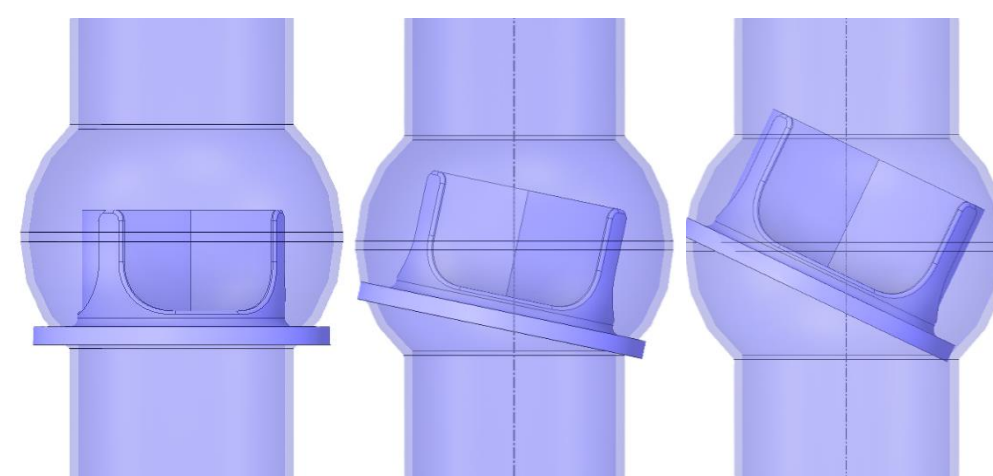

Fig. 2: 3D models of the heart valves in the aorta - from left to right: 23 mm, 25 mm and 27 mm.
**Simulated Scenarios** (Fig. 2):
The measurement results are presented as bar graphs in Fig. 2.